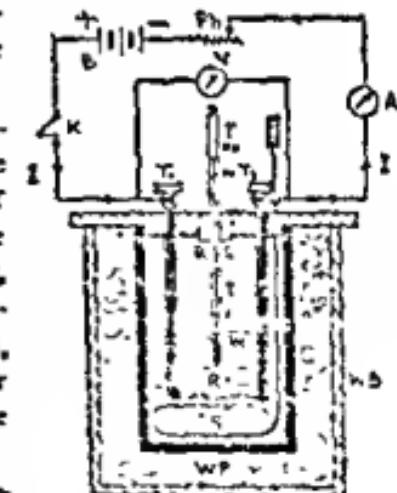

Fig. 19-1
4. Make the connections as shown in the figure 19-1. It will require a battery of three or four lead accumulators joined in series. See that positive terminal of the voltmeter and of ammeter are connected directly or indirectly through other instruments to the positive pole of the battery.